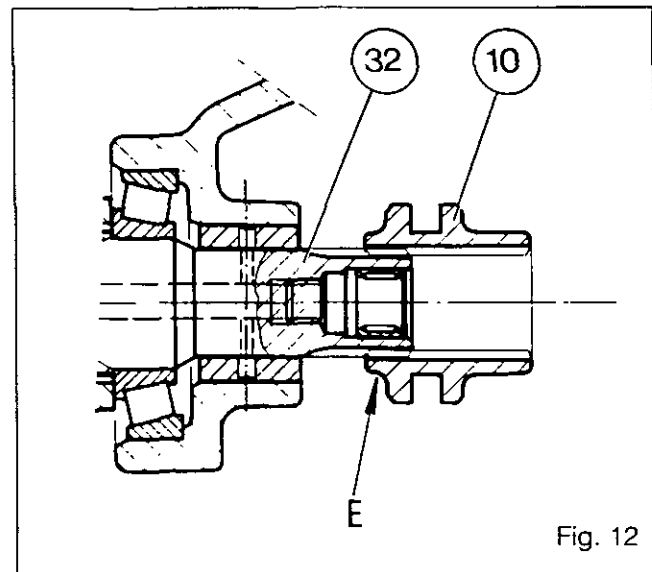

Fig. 12
**Note :** Position the small shoulder E towards the shaft (32) (Fig. 12).